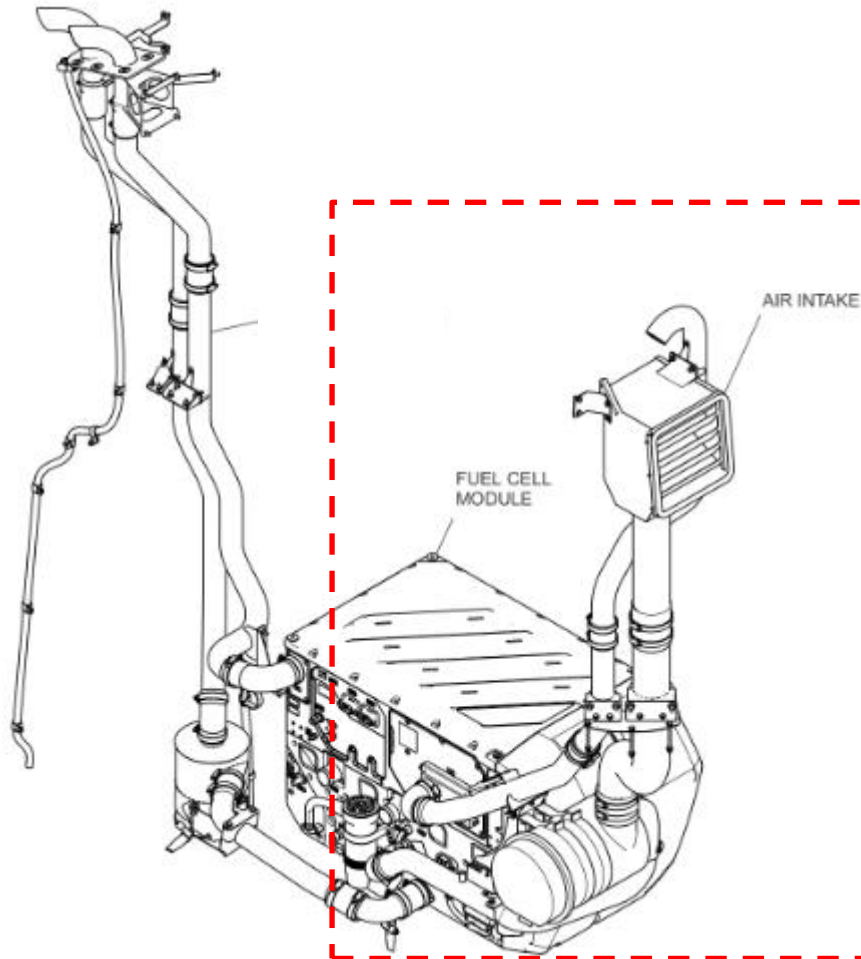

Figure 2: FC Air intake system location reference
7. Open rear fuel cell access door and gain access to fuel cell air intake system shown below. See figure 2.